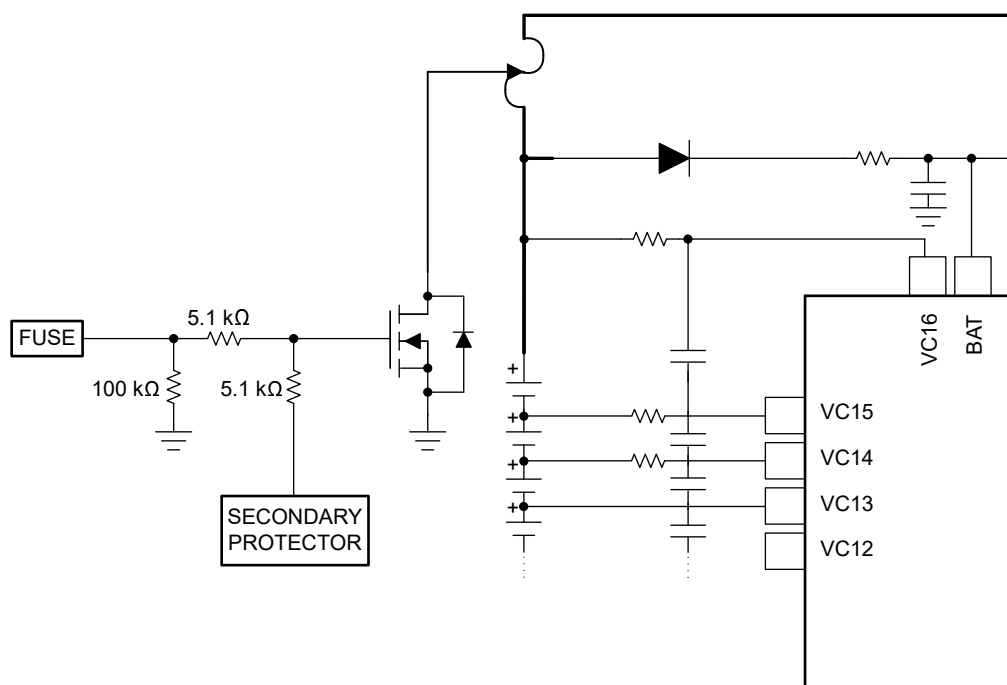

Figure 7-6. FUSE Pin Operation
The FUSE pin on the BQ76972 device can be used to blow a chemical fuse in the presence of a Permanent Fail (PF), as well as to determine if an external secondary protector in the system has detected a fault and is attempting to blow the fuse itself. The pin can drive the gate of an NFET, which can be combined with the drive from an external secondary protector, as shown in Figure 7-6. When the FUSE pin is not asserted by the BQ76972 device, it remains in a high-impedance state and detects a voltage applied at the pin by a secondary protector. The device can be configured to generate a PF if it detects a high signal at the FUSE pin.